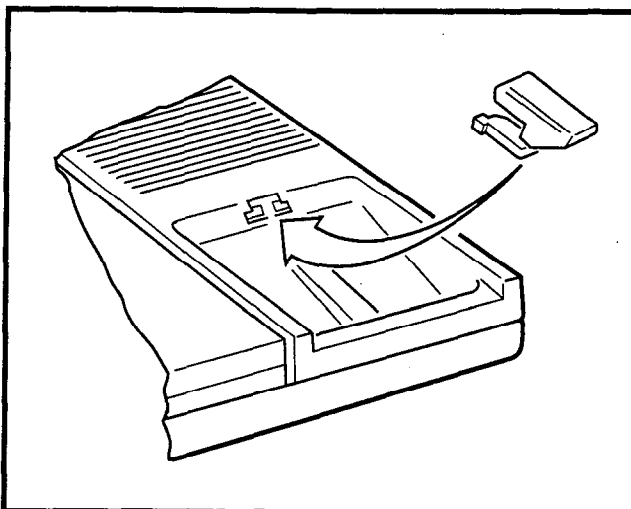

FIGURE 4-25—REMOVAL OF HANDSET HANGER
5.13 Using a cutter, remove the handset hanger from the base. Insert the handset hanger in the slot provided on the front of the telephone (Figure 4-25). The hanger fits in the notch on the handset.